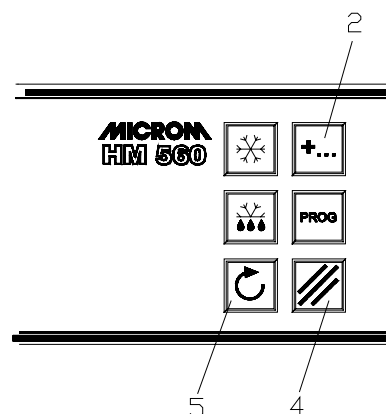

Fig. 23d
- For this, press button (fig. 23d.2) until the message "COARSE FILT.!!!!!" appears on the display.
- For this press the scroll button (fig. 23d.5). However, this means that the counter must still be reset. After further sections, the message will appear on the display again every 1000 µm.
- For this press the button (fig. 23d.2) until the message "COARSE FILT. ==> OK" appears on the display.
- For this, press button (fig. 23d.2) until the message "MICRO FILT.!!!!!" appears on the display.
- For this press the scroll button (fig. 23d.5). However, this means that the counter must still be reset. This message will appear on the display every 24 h.
- For this press the button (fig. 23d.2) until the message "MICRO FILT. ==> OK" appears on the display.